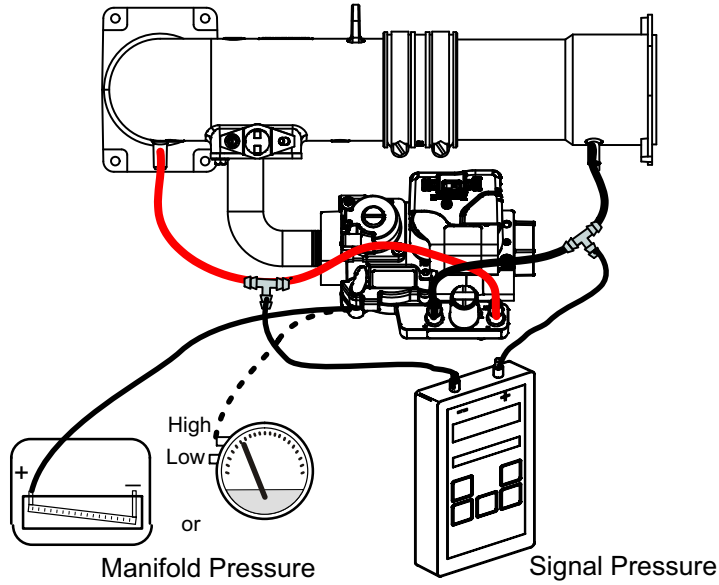

FIGURE 6
- 3 - Install hoses and meter as shown in figure 6 for signal pressure measurement.